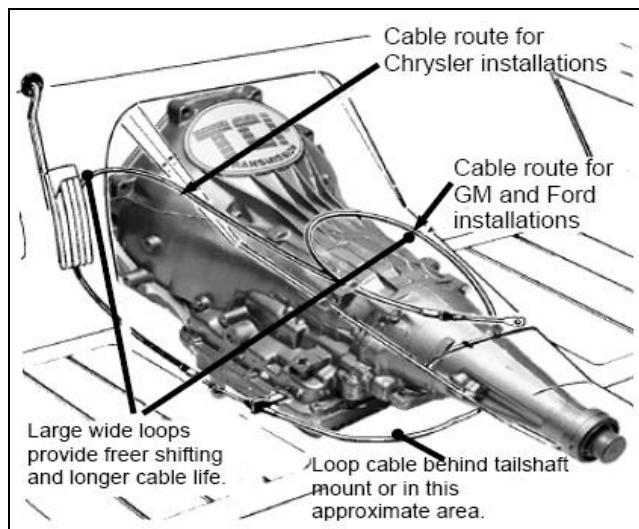

Figure 2
**STEP 8.** Install the shifter mechanism into the vehicle. Slide the shifter cable through the carpet and the hole in the floor. Bolt the shifter down using four 1/4" hex bolts, nuts and spacers. **ROUTE THE CABLE AS SHOWN IN FIGURE 2, AVOID SHARP BENDS WHICH WILL KINK AND DAMAGE THE CABLE. Be sure to keep the cable away from the exhaust!** Use cable clamps or tie wraps to secure the cable housing to chassis to avoid contact with hot engine or exhaust system. For General Motors vehicles go to **Step 9**, for Ford vehicles go to **Step 15**, for Chrysler vehicles go to **Step 20**.
**STEP 11.** Remove the two rubber boots, one large nut, and a large lockwasher from the threaded end of the shifter cable. Route the shifter cable according to **Figure 2**. Avoid sharp bends and route the cable away from hot engine exhaust parts. Slide the end of the cable into the cable bracket, install the lockwasher and large nut over the end of the cable. Position the cable so the threaded portion of the cable housing is centered in the cable bracket. Tighten both large nuts to hold the cable in this position. Install the two rubber boots onto the end of the cable.
**STEP 17.** Remove the two rubber boots, one large nut, and a large lockwasher from the threaded end of the shifter cable. Route the shifter cable according to **Figure 2**. Avoid sharp bends and route the cable away from hot engine exhaust parts. The cable may be secured up and out of the way with nylon cable ties. Slide the end of the cable into the cable bracket, install the lockwasher and large nut over the end of the cable. Position the cable so the threaded portion of the cable housing is centered in the cable bracket. Tighten both large nuts to hold the cable in this position. Install the two rubber boots onto end of cable.
**STEP 22.** Remove two rubber boots, one large nut, and a large lockwasher from the threaded end of the shifter cable. Route the shifter cable according to **Figure 2**. Avoid sharp bends and route the cable away from hot engine and exhaust parts. The cable may be secured up out of the way with nylon cable ties. Slide the end of the cable into the cable bracket, install the lockwasher and large nut over the end of the cable. Position the cable so the